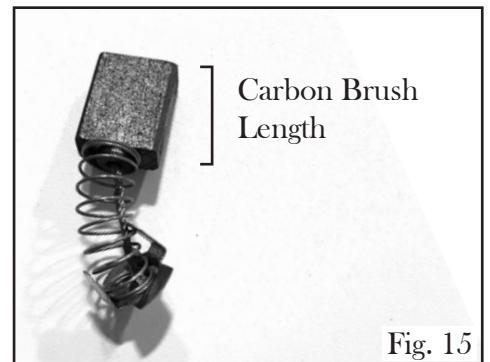

Fig. 15
2. The wear on the carbon brushes depends on how frequently and how heavily the tool is used. Replace the brushes when the brush length (Fig. 15) gets down to $\frac{3}{16}$ of an inch or when the tool sparks or stops working. Both carbon brushes should be replaced at the same time.